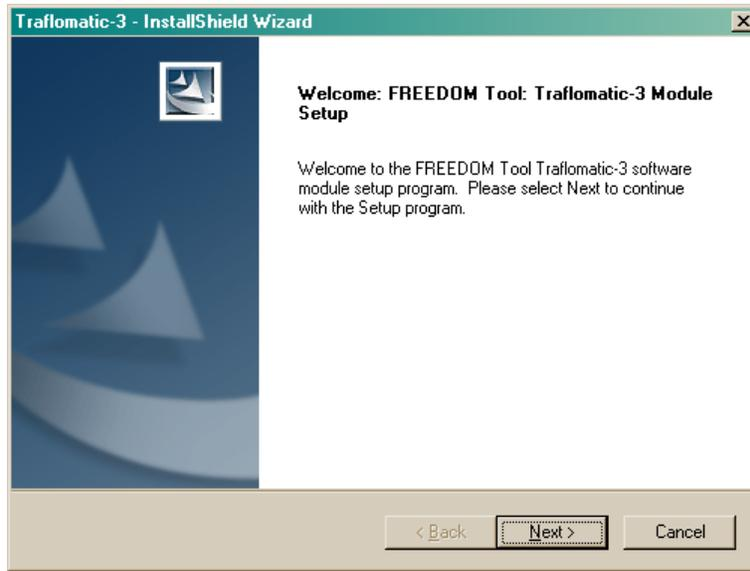

Figure 6
- After selecting the **Install** pushbutton associated with the Trafromatic-III section of the FREEDOMWare Installer, the Install Shield Wizard will run showing a window similar to the one shown in Figure 6. To continue with the setup of the Trafromatic software module simply click the **Next** pushbutton with the PC's pointing device.